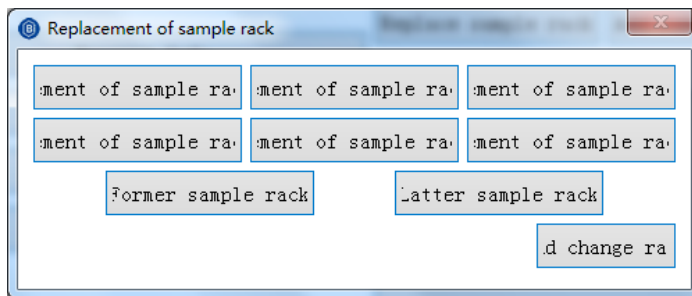

Figure. 8.8.4 Finish the replacement of the sample racks
- After the replacement, please click **Finish**, as shown in Figure 8.8.4.